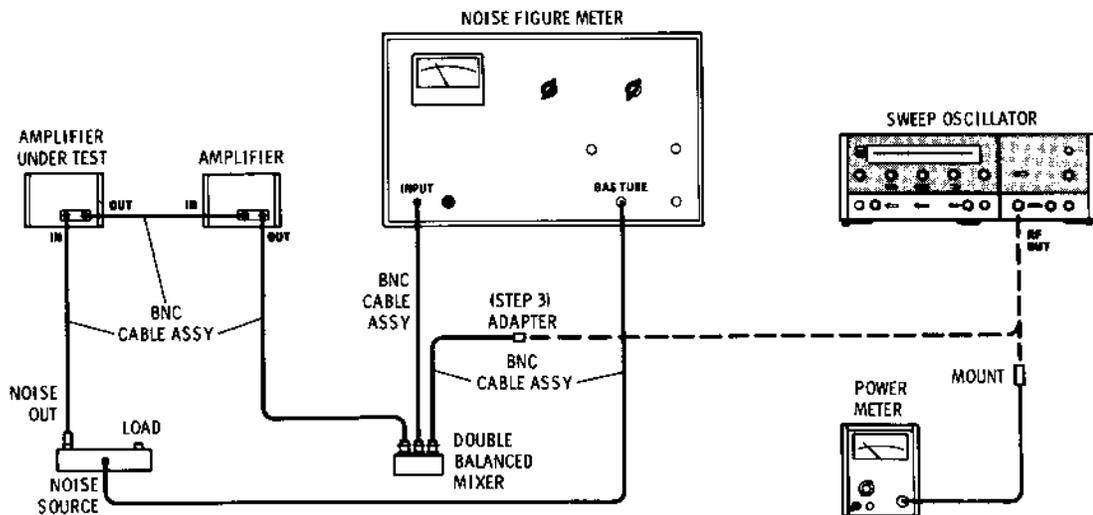

Figure 9 Noise Figure Test Setup: 1200 MHz
- 2 Connect the equipment as shown in Figure 9. Set the sweep oscillator for a fixed, CW signal at 1300 MHz. Set the signal level out of the oscillator for +10 dBm, read on the power meter.